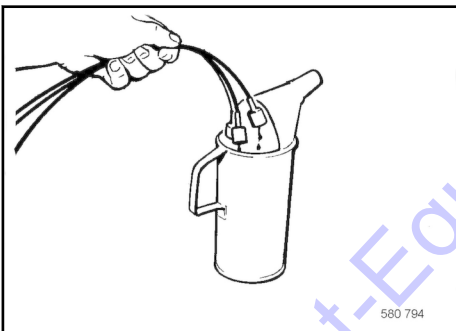

Fig. 149
5. Hold the open ends of the pressure test hoses ↪ Fig. 149 into a container.